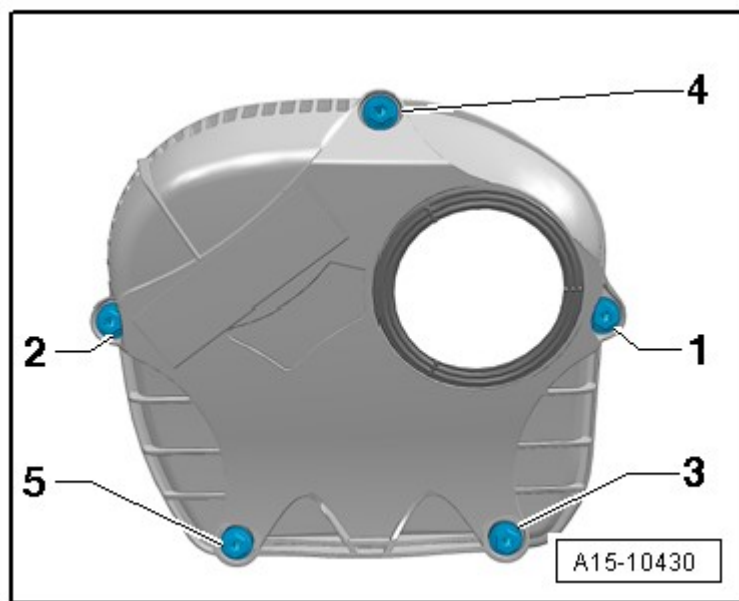

Fig. 4: Identifying Upper Timing Chain Cover - Tightening Sequence
- Tightening sequence, refer to **Fig. 4**
- Removing and installing, refer to **Fig. 4**